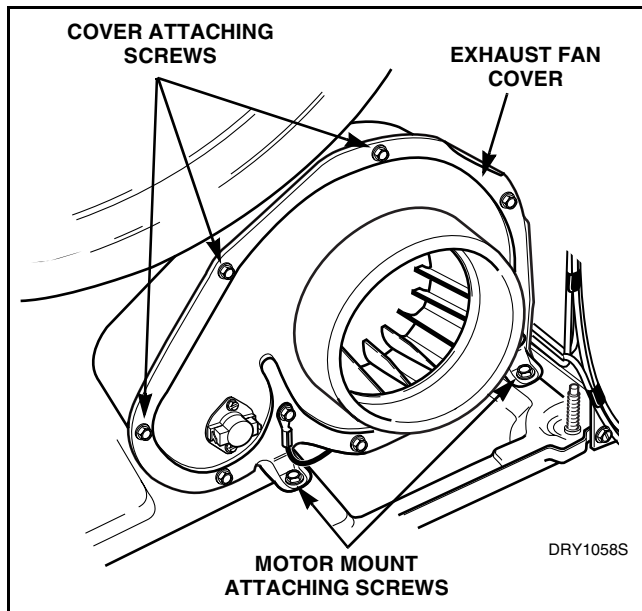
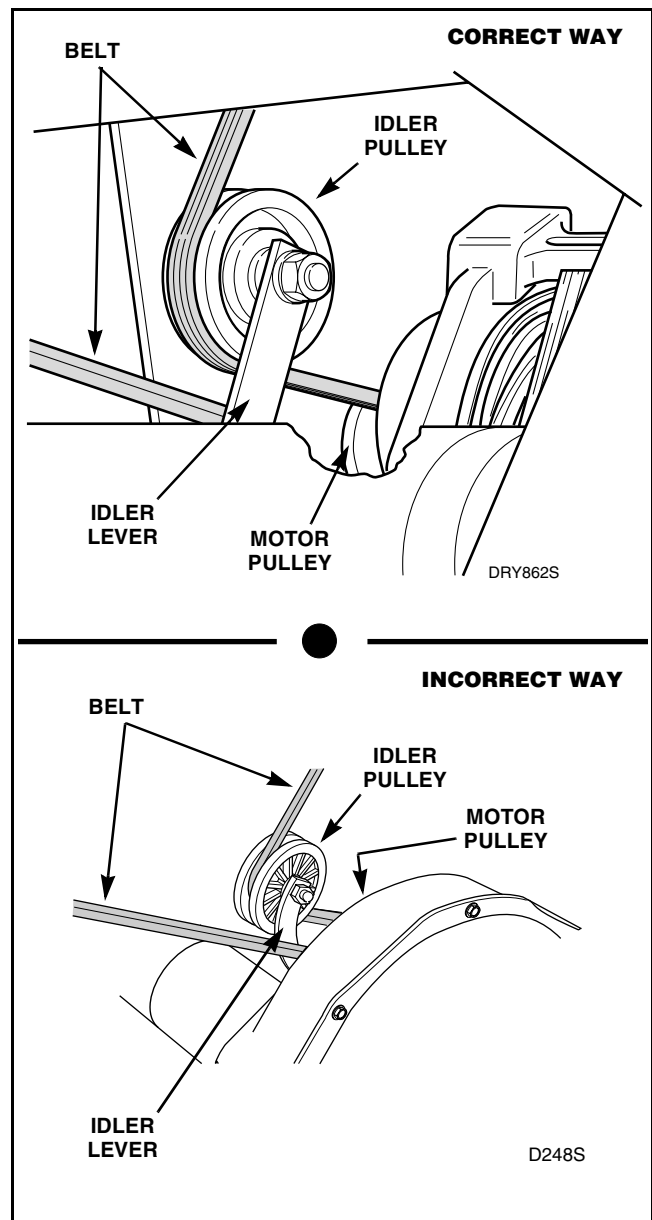
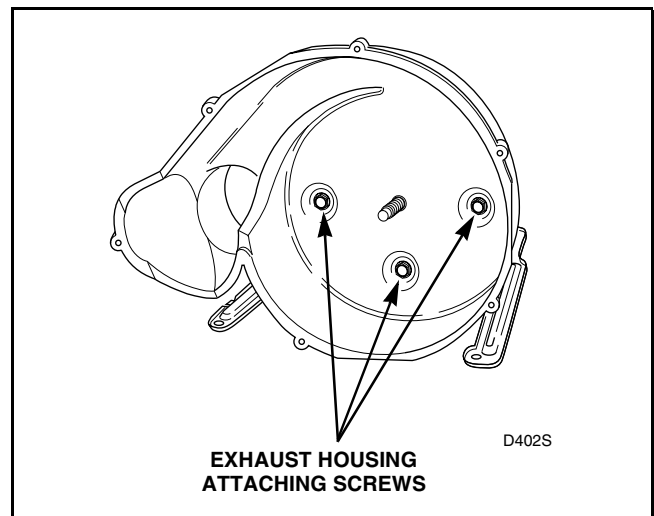

Figure 23
Figure 24
Figure 27
- g. Remove cylinder belt from idler and motor pulleys. Refer to *Figure 24*.
- h. Remove two screws holding motor mounting bracket to dryer base. Refer to *Figure 23*. Then pull complete assembly out through front of dryer.
along dryer base (between motor mounting bracket and right side of cabinet). Refer to *Figure 23*. Tab on rear of motor mounting bracket must be slid into slot in dryer base. Be sure the belt has been installed on the correct side of the idler lever. Refer to *Figure 24*.
- (1) Remove screws holding cover to housing. Refer to *Figure 23*.
- (2) Hold motor pulley securely and unthread impeller from motor shaft (right hand thread). Use a 7/8 inch, 6 point socket to aid in the removal of the impeller.
- (3) Remove three screws and washers holding the exhaust housing to the motor mounting bracket. Refer to *Figure 27*.
- Disengage belt from motor and idler pulleys. Refer to *Figure 24*